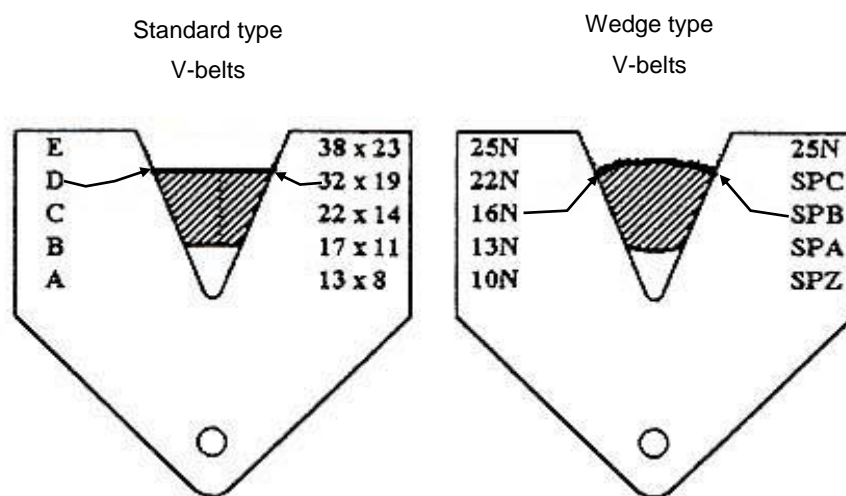

FIG 3.
- A. A V-belt gauge is used to determine V-belt sizes. It is fitted over the V-belt and the size of the V-belt is indicated by the letters or numbers, which are in line with the **top surface** of the V-belt. (Fig 3)
- B. Fig 3 shows that the wedge type V-belt is a 16N SPB, and the standard type is a D 32x19.